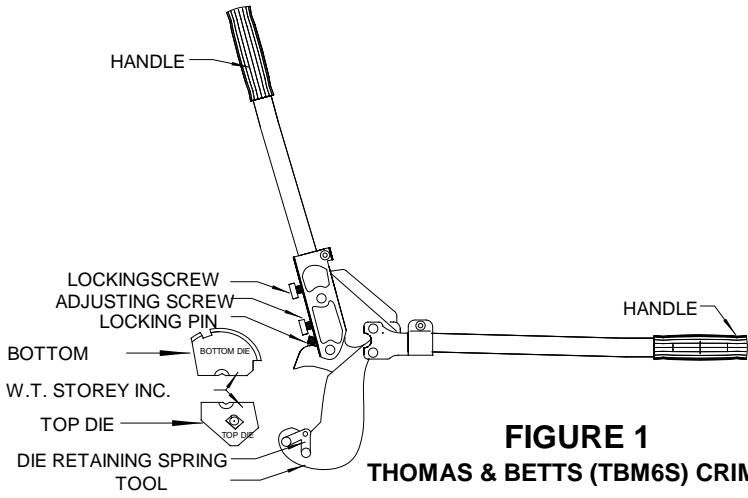

FIGURE 1
- a.) Open handles until fully extended with retaining spring facing you. Insert the top die (see above for correct WTS die) under the retaining spring in the tool head (see Figure 1).
- 4.) Then Crimp using die cavity as shown in Figure 1. One strike with T & B Tool will make 2 indentations.